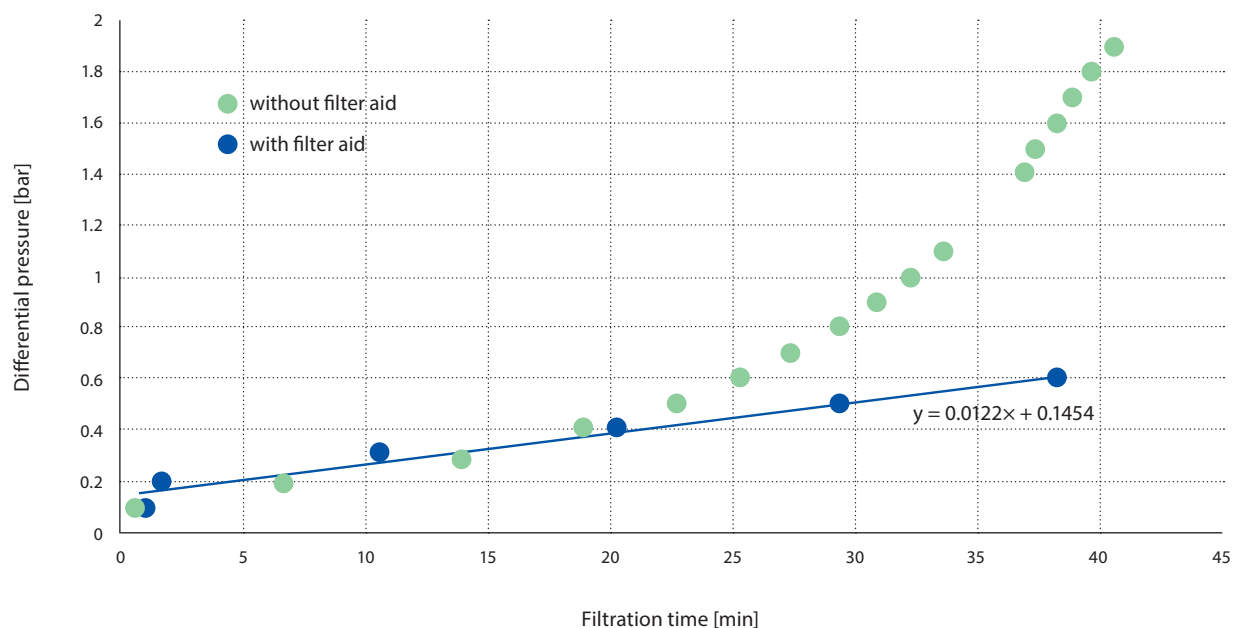

Figure 2: Increase of differential pressure during filtration without and with the addition of filter aid
Why is the use of filter aid necessary? Standard depth filters can no longer handle the higher and higher cell titers ($>10^8$ cells/ml) in fermentation broths. By using a filter aid such as diatomaceous earth (e.g. CELPURE®) the filtration volume per filter area can be increased up to 4-fold (see figure 2). The filter aid is suspended in the fermentation broth or in buffer/water and then washed onto the FILTRODISC™ BIO SD modules to form a filter cake. When doing this, the filter sheet (e.g. PURAFIX® CH 09P) in the modules, themselves function not as filters, but merely as a support for the filter cake, which is where the actual slurry removal takes place.
1. *Extension of filtration volume per area:* Due to the formation of the filter cake the filtration volume per filter area can be extended greatly, in some cases up to 4-fold (figure 2).